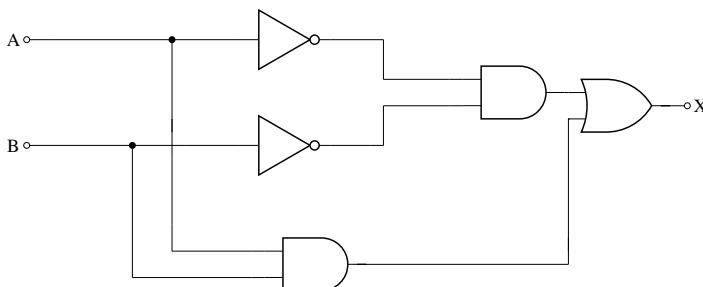

Fig. 3.27
46. A and B are logical inputs and X is the logical output shown in Fig. 3.27. The output X is related to A and B by